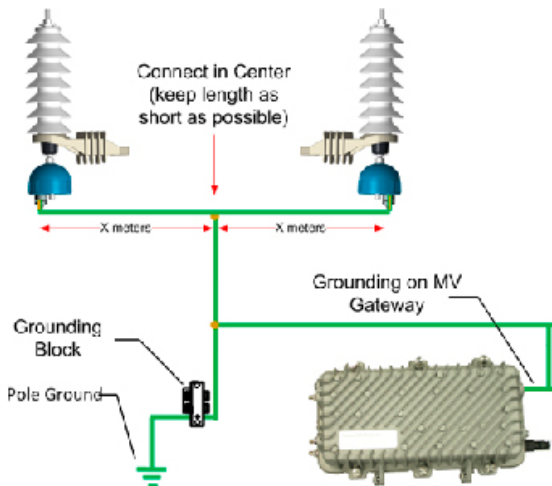

Figure I.7
- The length of the grounding and coaxial cables must be of equal distance (see Figure I.7)